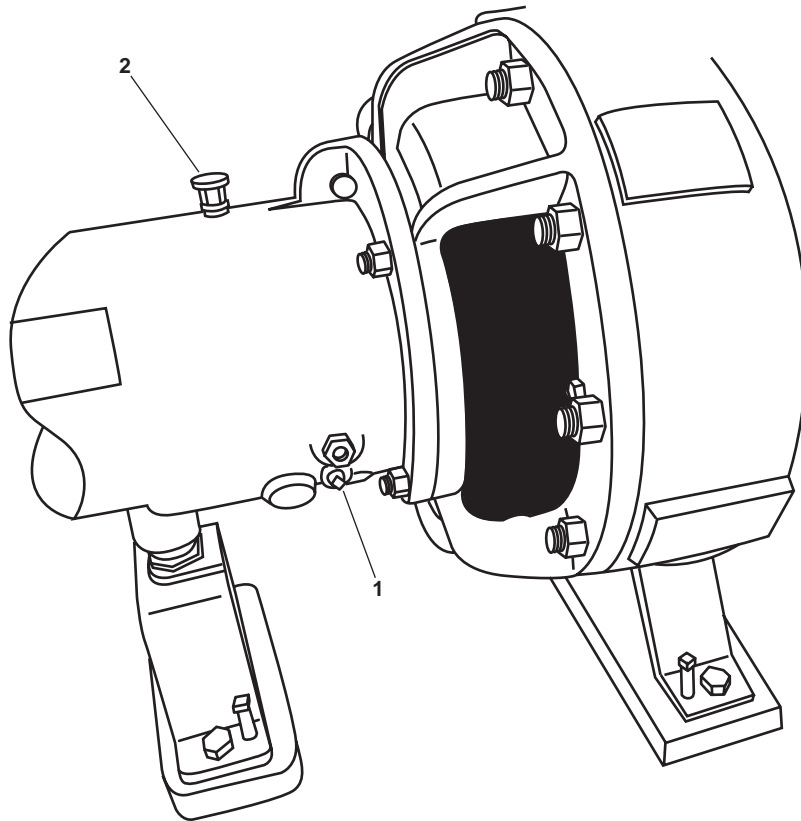
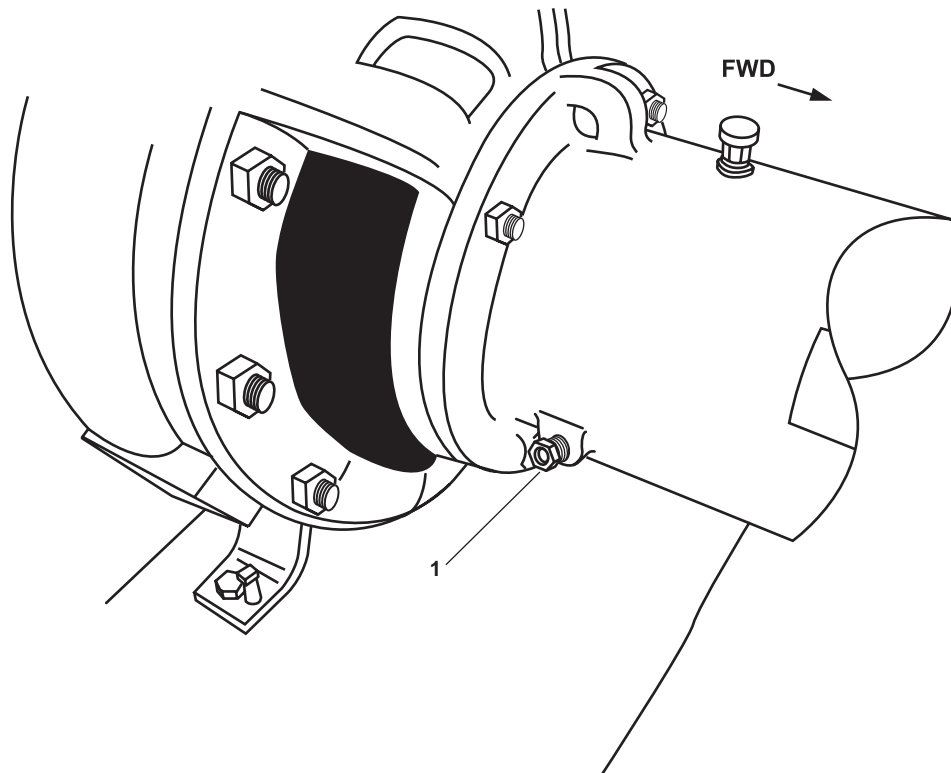

Figure 2. Diesel Engine-Driven Firefighting Pump – Drain/Vent Plugs
Figure 3. Diesel Engine-Driven Firefighting Pump – Oil Sight Glass
1. Place a suitable drain pan under the firefighting pump's drain plug (figure 2, item 1).
2. Remove the drain plug (figure 2, item 1), permitting the oil to drain from the pump into the suitable drain pan.
3. Remove the breather (figure 2, item 2) from the pump.
4. Using dry cleaning solvent and wiping rags, clean the breather (figure 2, item 2).
1. Place antiseizing tape on the drain plug's male pipe threads (figure 2, item 1).
2. Install the drain plug (figure 2, item 1) in the diesel engine-driven firefighting pump.
3. Fill the diesel engine-driven firefighting pump with mineral oil (ISO non-detergent 68) at the breather (figure 2, item 2) until the oil level is in the center of the sight glass (figure 3, item 1).
4. Place antiseizing tape on the breather (figure 2, item 2) male pipe threads.
5. Install the breather (figure 2, item 2) on the firefighting pump.